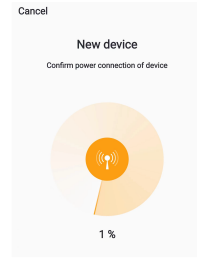

Figure 12
- (5). If a timeout occurs, perform the above steps again. Successfully jump to the added device (figure 12).